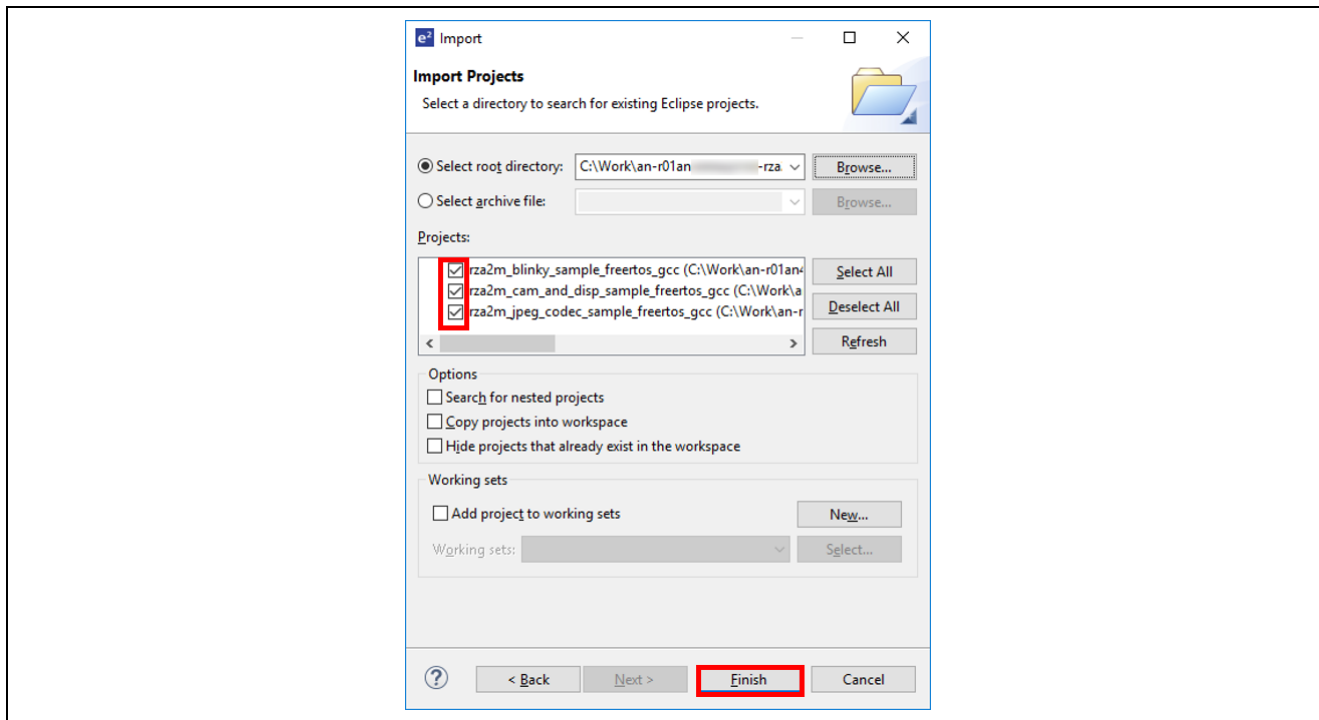

Figure 3-6 Import target project
- Confirm your target project is checked, then click 'Finish'. This is shown in Figure 3-6.
(Note: Projects in Figure 3-6 are just sample. From here, please read the project name as your target project name.)